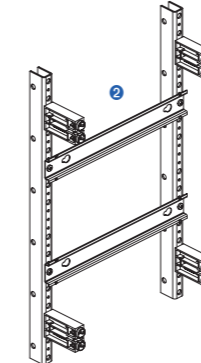

Fig. 3: Fixing of DIN support rails when using the electric shock protection cover plate as a pan
**DIN support rails (Fig. 3)**